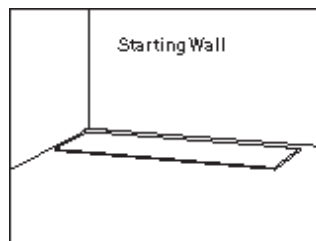

Fig. 2 – Left corner of starting wall.
- Install the product from left to right in the room. (Fig. 2). Ensure the planks/tiles are installed tight to the walls and any vertical obstructions. All edges and ends of the planks/tiles should meet flush and have a tight fit.